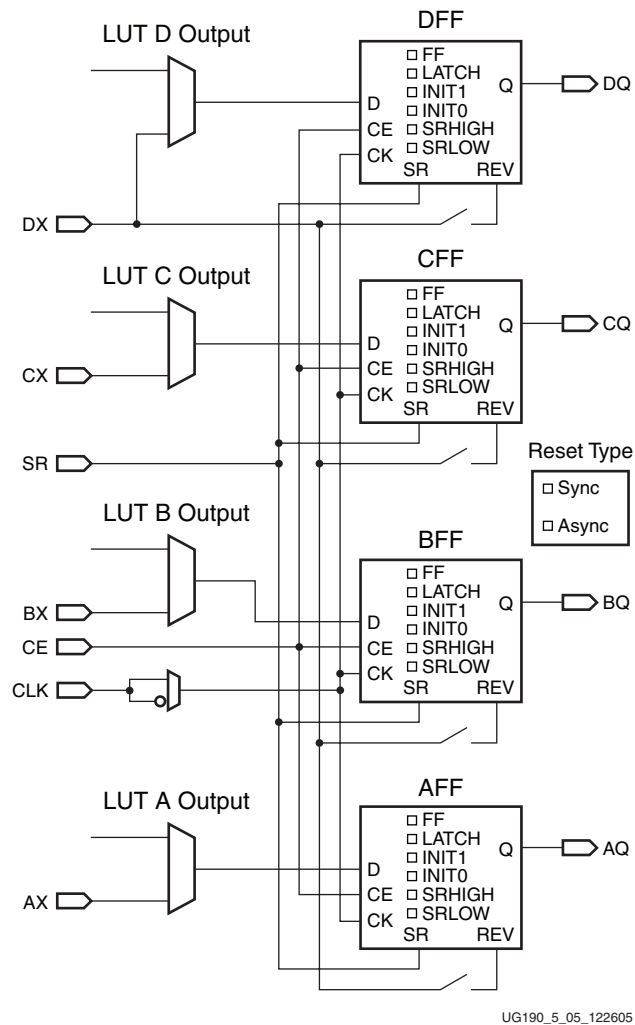

Figure 5-5: Register/Latch Configuration in a Slice
The SR signal forces the storage element into the state specified by the attribute SRHIGH or SRLOW. SRHIGH forces a logic High at the storage element output when SR is asserted, while SRLOW forces a logic Low at the storage element output. When SR is used, an optional second input (DX) forces the storage element output into the opposite state via the REV pin. The reset condition is predominant over the set condition (see Figure 5-5). Table 5-3 and Table 5-4 provide truth tables for SR and REV depending on whether SRLOW or SRHIGH is used.